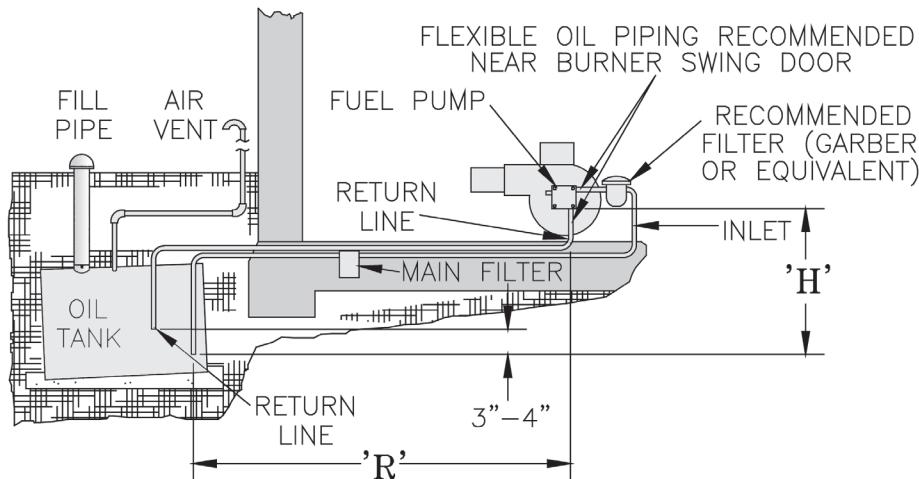

Figure 26: Two Pipe Oil Lines
- For two piped systems, where more lift is required, the two-stage fuel unit is recommended. Table 7 (two-stage) and Table 8 (single-stage) show allowable lift and lengths of 3/8 inch and 1/2 inch OD tubing for both suction and return lines. Refer to Figure 26.